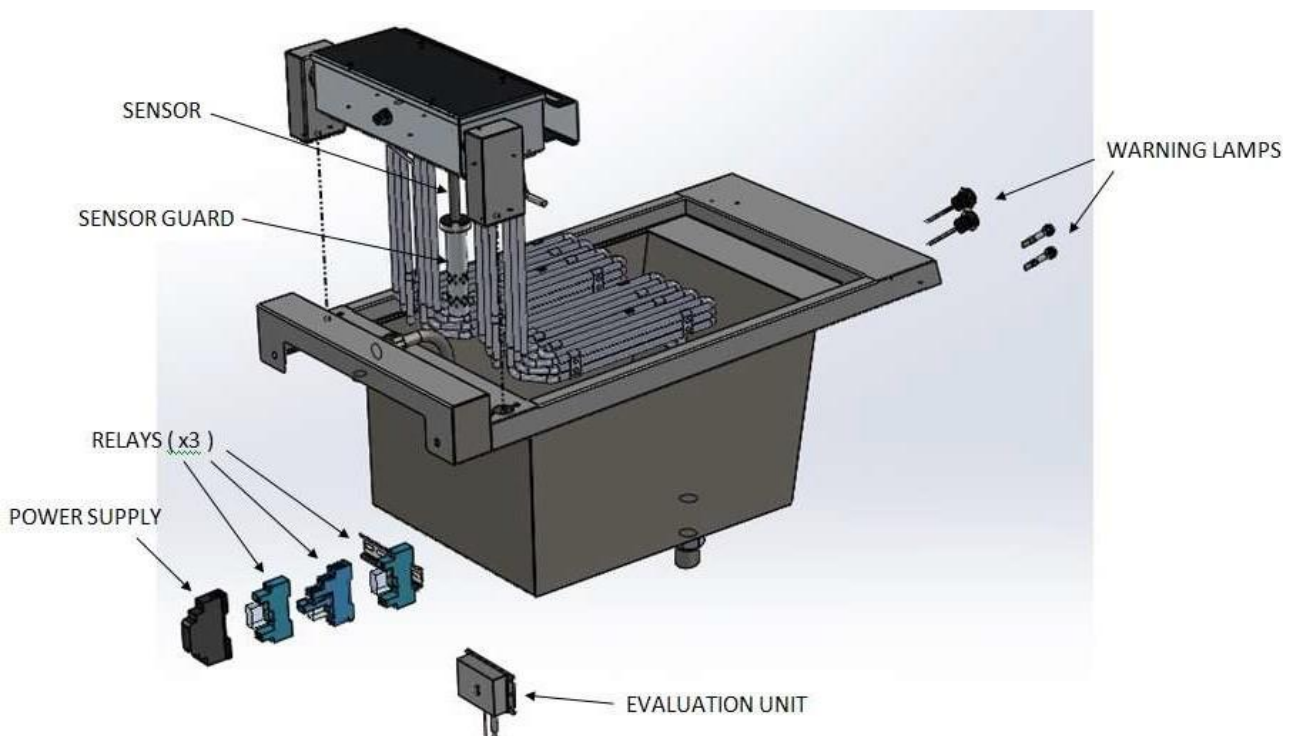

Figure 6 – Oil level sensor circuit components
(E3840X & E3840FX only, Figure 6)
- a) If unit has filtration, ensure filtration pump switch is in the 'OFF' position (O).
- b) Press ON/OFF switch to ON position (I).
- c) 'Check Oil Level' lamp will flash and an alarm will sound. Operator **MUST** ensure that there is oil / sufficient oil in the pan (See Figure 6).